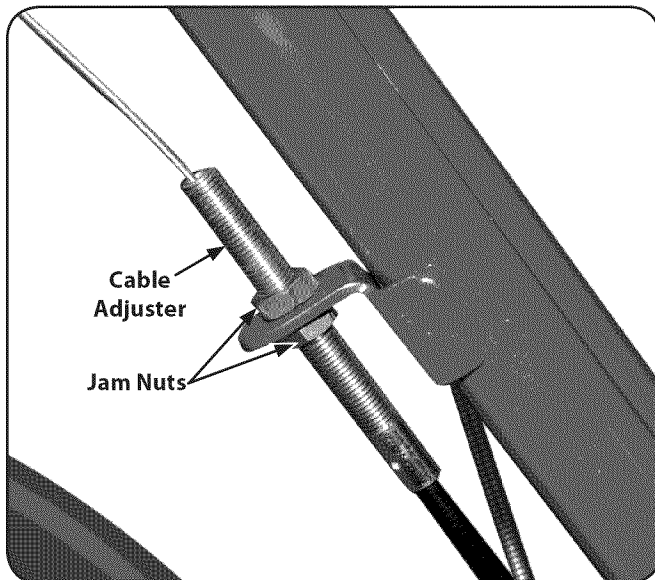

Figure 3-8
- Attach the cable adjuster to the bracket on the right-side handlebar. See Figure 3-8. Use the two 1/2" wrenches to loosen the two jam nuts just enough to slide the cable adjuster onto the bracket. Then hand tighten the jam nuts.